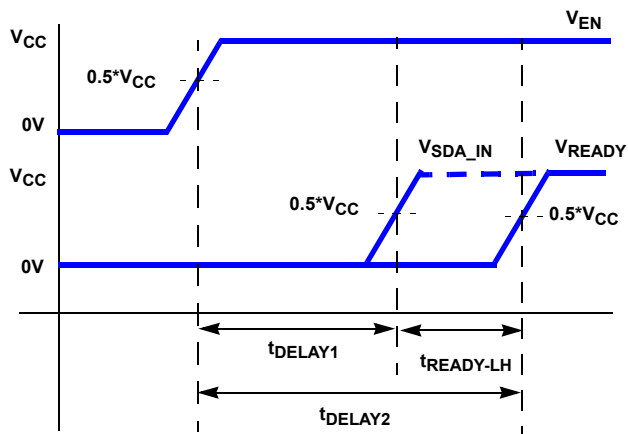

FIGURE 3. ENABLE DELAY TIME
**Note:** For the ISL33001 and ISL33003 with EN pins, after coming out of UVLO, there will be an additional delay from the enable circuitry if the EN pin voltage is not rising at the same time as the supply pins (see Figure 3) before a valid connection state can be established.